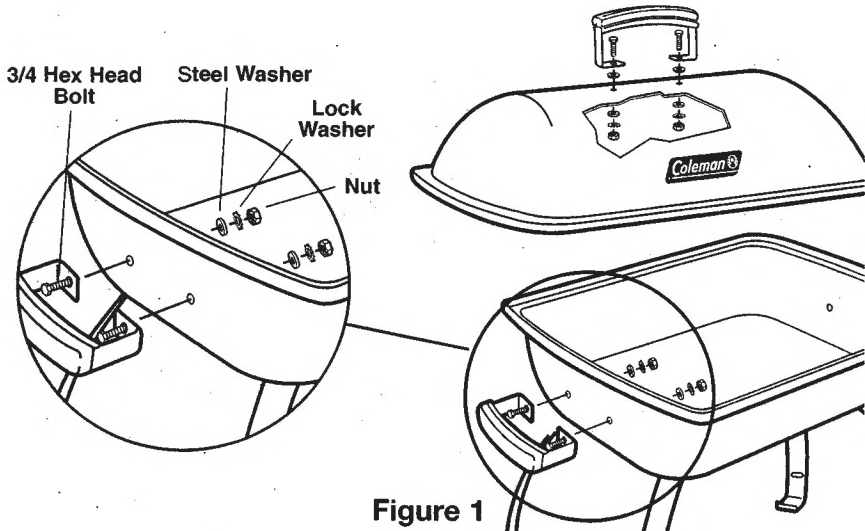

Figure 1
2. Assemble handles to lid and firebox as shown in **Figure 1**, using $\frac{3}{4}$ " bolts. Be careful not to overtighten bolts against porcelain surfaces which could crack if bolts are too tight.